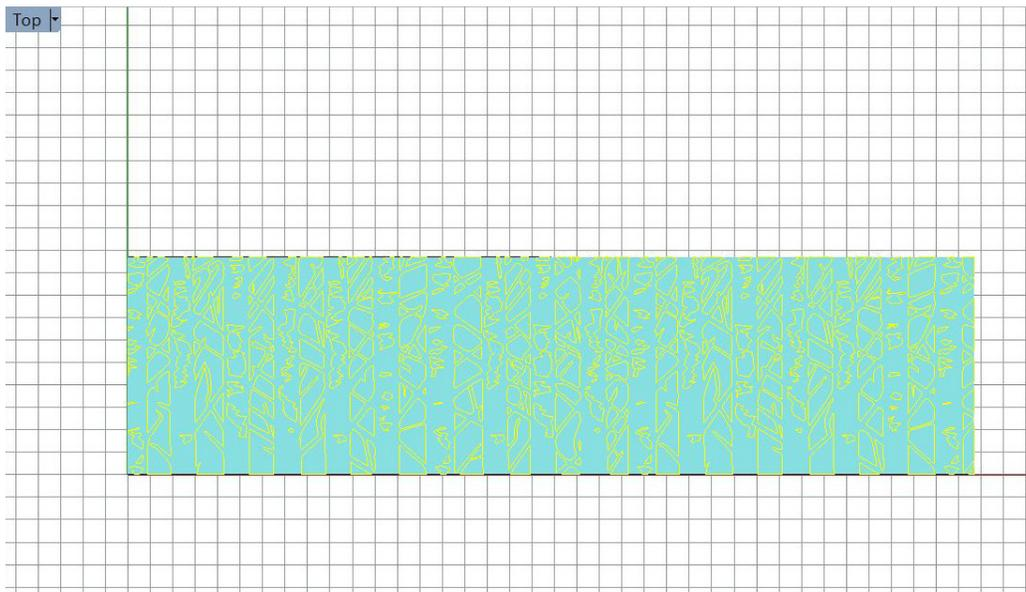

Figure 1.2 DXF import and image placement over unrolled surface.
4. Import the DXF sketch into rhino and use the move command to line it up with your surface. They should be exactly the same size (figure 1.2).